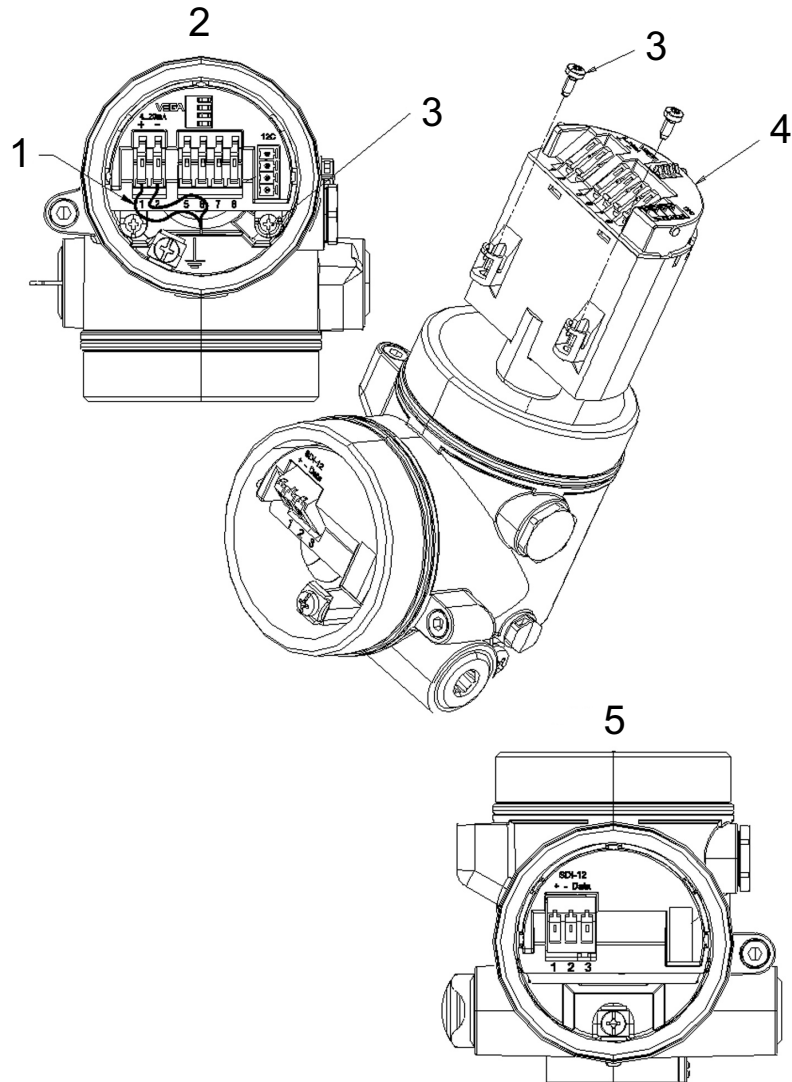

FIGURE 8-1. Changing the electronics (see TABLE 8-5 for label descriptions)
The electronics module is replaced by doing the following steps (see FIGURE 8-1 and TABLE 8-5):
1. Unscrew the housing cap (cap is not shown in FIGURE 8-1).
3. Loosen the two screws securing the electronics to the housing (3 in FIGURE 8-1). These screws are captive screws and will remain nested with the electronics.
4. Gently remove the electronics from the housing (4 in FIGURE 8-1).
6. Tighten the two screws to secure the electronics to the housing (3 in FIGURE 8-1).